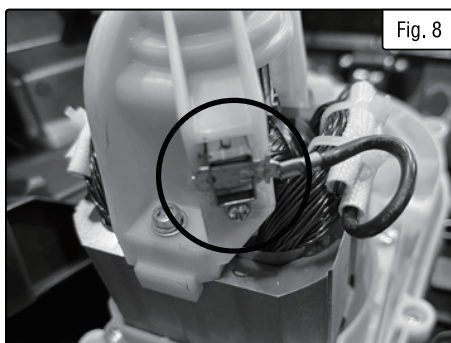

Fig. 8
6. Once open, find the motor and carbon brush holder (Fig. 8).